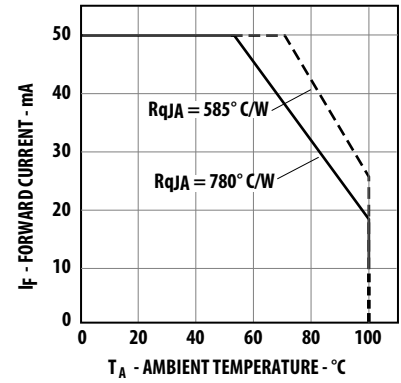

Figure 4. Maximum Forward Current vs. Ambient Temperature. Derating Based on  $T_{jMAX} = 130^{\circ}C$ .
1. Derate linearly as shown in Figure 4.